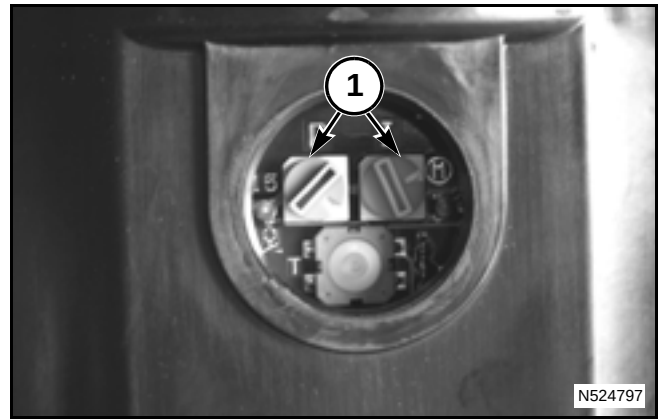

FIG. 72
FIG. 72: To adjust the times, rotate either of the rotary switches (1) until the notch in the switch is over the desired time. The recommended settings for the auto lube system is two minutes of on time every 6 hours. Use the following tables to adjust the times.